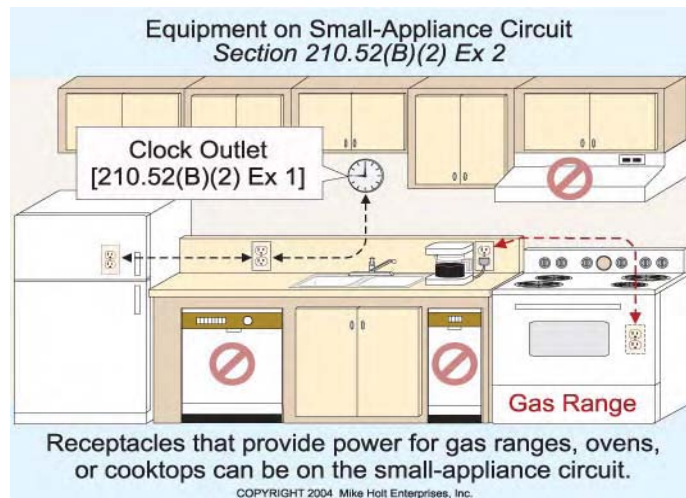

Figure 210-52
*Exception 2: A receptacle can be connected to the small-appliance circuit to supply a gas-fired range, oven, or counter-mounted cooking unit. **Figure 210-52***
AUTHOR'S COMMENT: If the countertop space behind a range or sink is larger than the dimensions noted in Figure 210.52 of the NEC, then a GFCI-protected receptacle must be installed in that space. This is because, for all practical purposes, if there's sufficient space for an appliance, an appliance will be placed there.